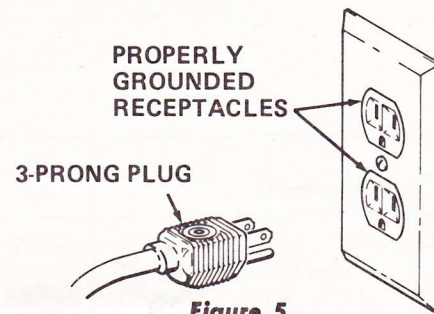

Figure 5
6. This motor is equipped with a 3-prong connector plug as a safety measure. The longest of the three prongs is connected to the motor housing through the power cord. Be certain the plug is inserted into a properly grounded receptacle. When using an extension cord, make sure it is also a 3 wire cable. (See figure 5.)